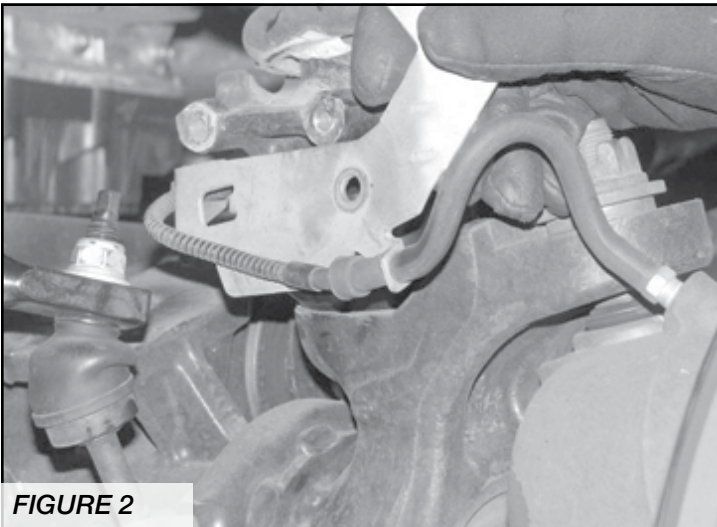

FIGURE 2
4. Lower the front axle allowing the coil springs to come free of tension and remove the coil springs. **EXERCISE EXTREME CAUTION WHEN WORKING WITH COIL SPRINGS UNDER LOAD! SEE FIGURE 2**